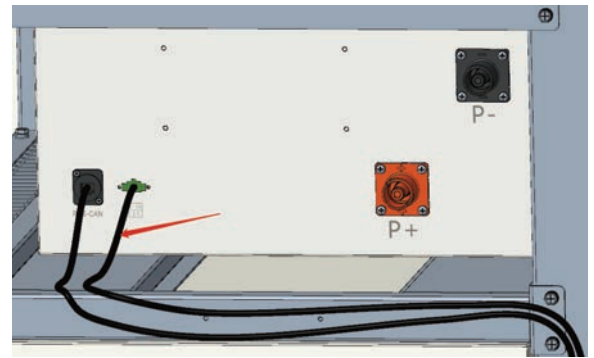

Figure 2.11
(7) Main control box AC220V auxiliary power supply wiring. Lock the AC plug of the main control box, and connect and lock the PCS AC power supply N and L (Figure 2.11).